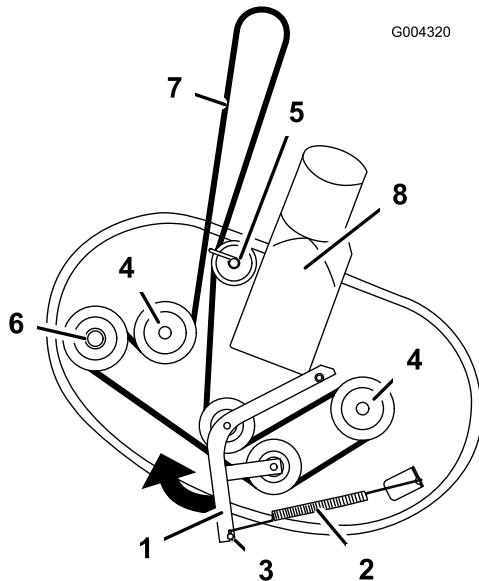

Figure 58
5. Loosen fastener securing the belt guide to the rear pulley (Figure 58).
6. Pull the idler arm in the direction shown in Figure 58 and roll the belt off of the pulleys.
7. Route the new belt around the engine pulley and mower pulleys (Figure 58). Install the new belt under the belt guide and around the rear pulley.
8. Pull the idler pulley in the direction shown in Figure 58 and route the belt onto the idler arm pulley and spindle pulleys (Figure 58).
9. Tighten the belt guide fastener on the rear pulley (Figure 58).